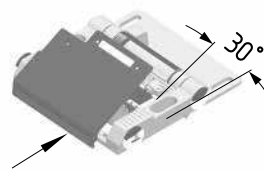
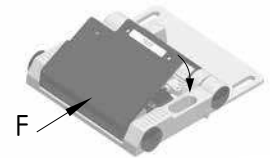

Fig. 2
Fig. 3
- Firmly push the enclosure cover • under an angle of approx. 30° onto the retaining collar (Fig. 2) and simultaneously exercise a downwards pressure (Fig. 3).